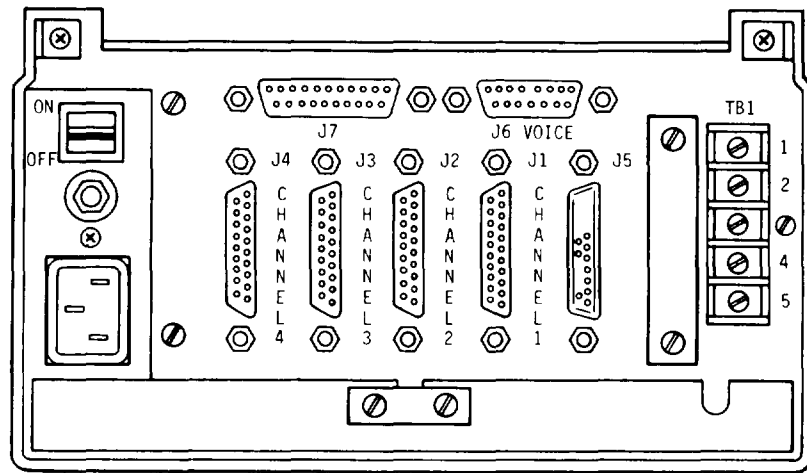

Figure 1-11. Domestic I/O Board (A9), Rear Panel Connectors
e. Rear Panel I/O Board (A9) Jumpers. The domestic rear panel and associated connectors (fig. 1-11) are part of a plug-in circuit board assembly which installs in modem board slot A9. J1, a 25-pin connector, is the standard interface connector supplying input/output data, control, status, and timing interface signals between the modem and the data terminal equipment. J2 thru J4 are identical to J1 and are used for channels 2 thru 4 of the multiplexer option. J5, a 25-pin connector, is normally used to terminate the telephone transmit and